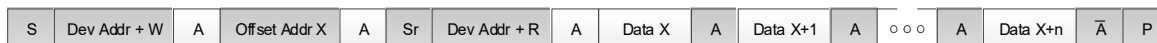

**Figure 7. Register Addressing Modes via Serial Port**
The user can choose to operate the serial port providing the full offset address within each burst, or to operate in a paged mode where part of the address offset is provided in each transaction and part comes from an internal page register in each serial port. Figure 7 shows how page register and offset bytes from each serial transaction interact to address a register within the RC22112A.
- 1-byte (1B) or 2-byte (2B) offset addressing (see Figure 7)